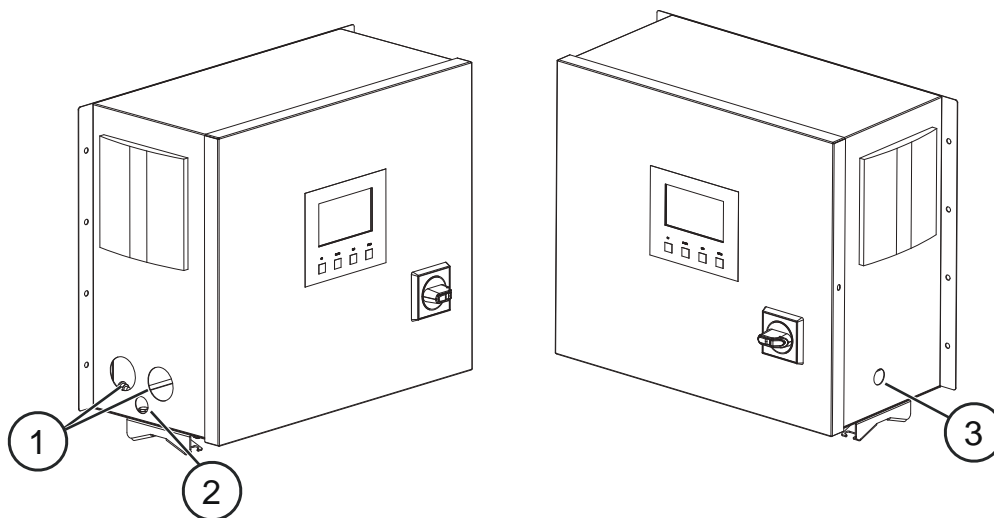

Figure 11 CPP Wiring
- Route and terminate AC power to the CPP (Figure 11), matching voltage and power specifications on the serial label of the system. Refer to the wiring diagram to match wire tag numbers.